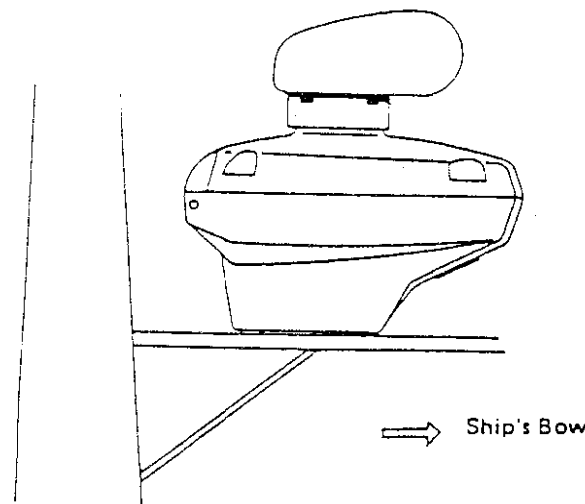

Fig.1-1 Orientating the Scanner Housing
3. Place the scanner housing on the chosen site, and orientate it as shown in Fig.1-1.